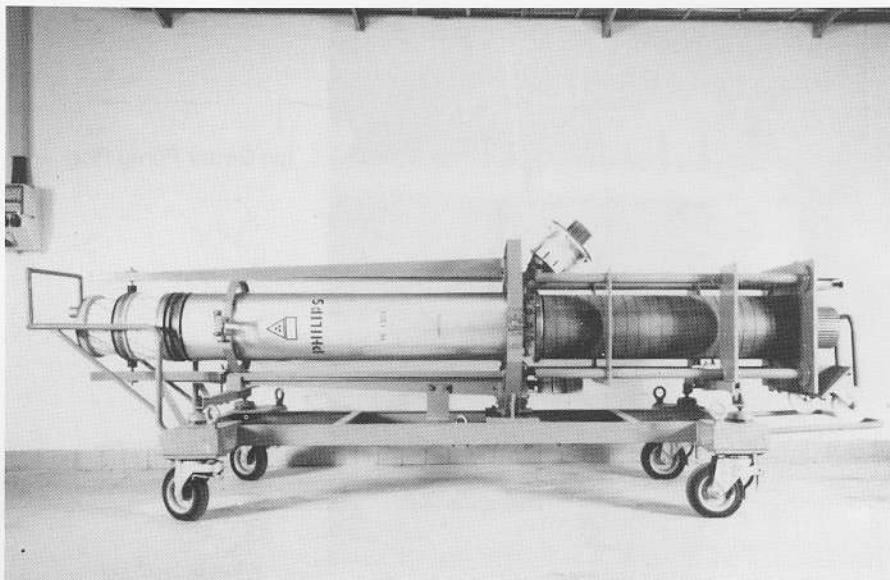

Fig. 3. Klystron on its Transport Trolley (TE 1178)
- (a) Normally the klystron should be stored on its transport trolley (TE 1178), see Figs. 3, 4 and 5.
- (a) Unpack the klystron, mounted on its transport trolley (TE 1178), see Figs. 3, 4 and 5.